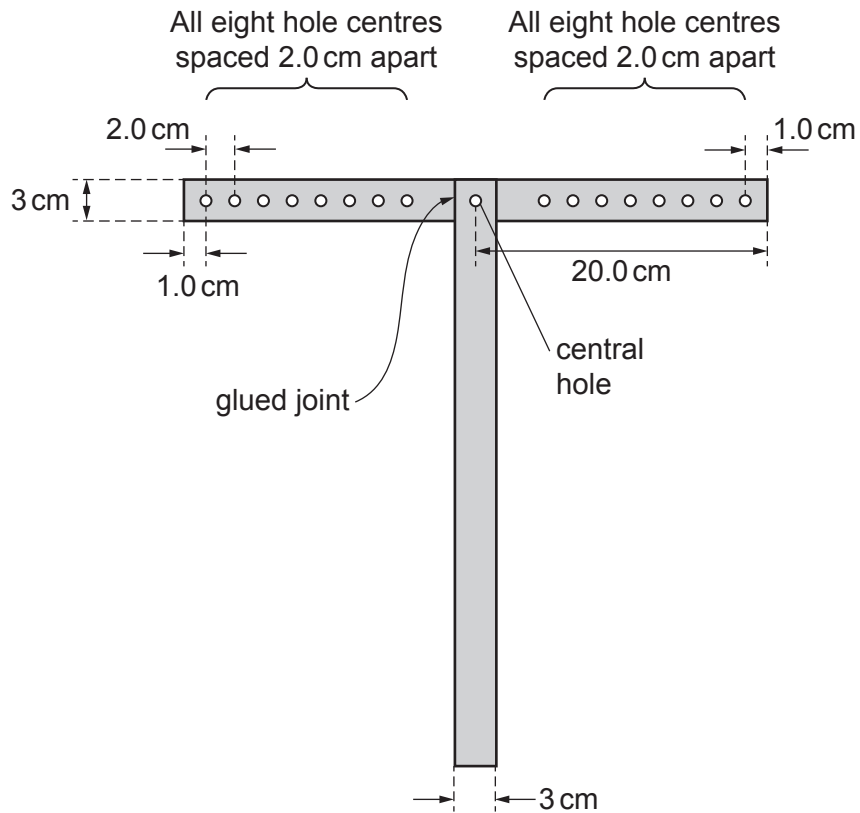

Fig. 1.1
- Securely glue the two wooden strips together so that they are perpendicular to each other, as shown in Fig. 1.1.
Use a 5.5 mm bit to drill seventeen holes at the positions shown in Fig. 1.1.